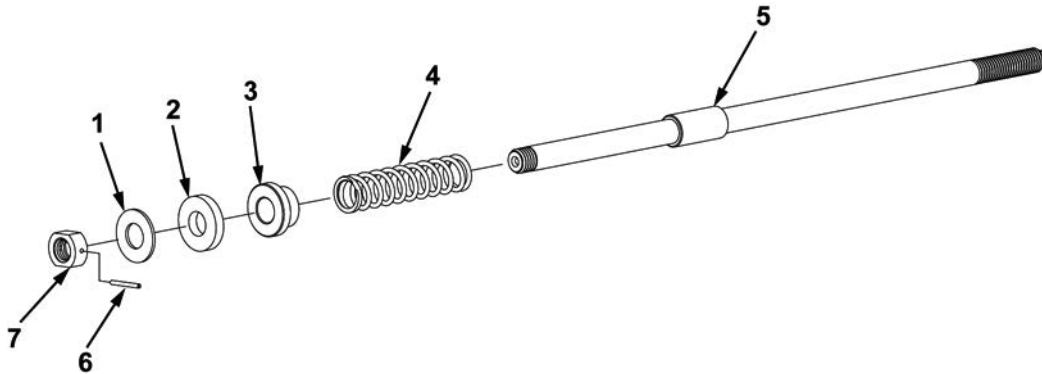

Figure 3. Disassembly of Recoil Spring Assembly.
11. Remove spring pin (Figure 3, Item 6) from round plain nut (Figure 3, Item 7). Discard spring pin.
12. Remove round plain nut (Figure 3, Item 7), flat washer (Figure 3, Item 1), rubber flat washer (Figure 3, Item 2), helical compression retainer (Figure 3, Item 3) and secondary recoil spring (Figure 3, Item 4) from threaded end rod (Figure 3, Item 5). Discard rubber flat washer.